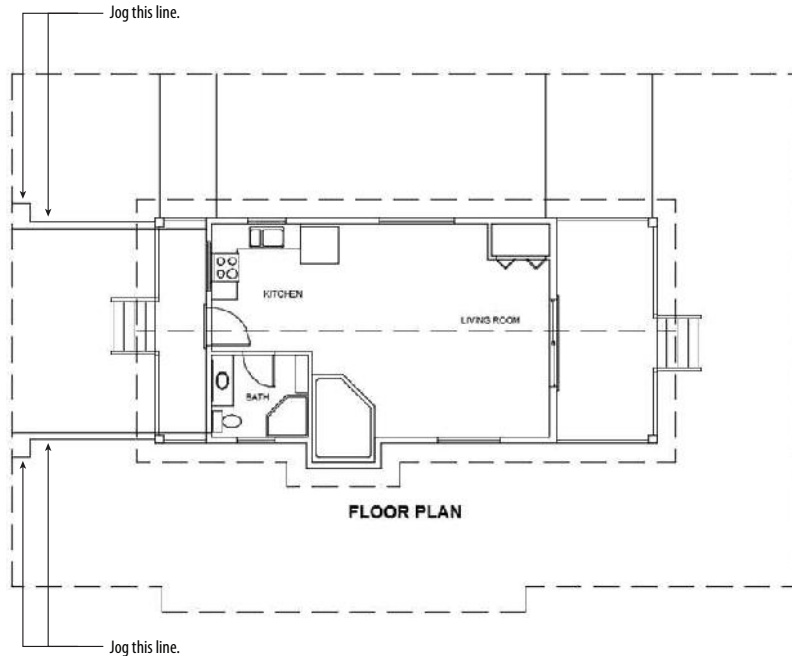

FIGURE 8.30: The column lines for the deck posts
13. This time add a jog to each column line so that their endpoints are not too close to the endpoints of the existing horizontal column lines (see Figure 8.30). You need to leave space for the column tag and don't want them to overlap.